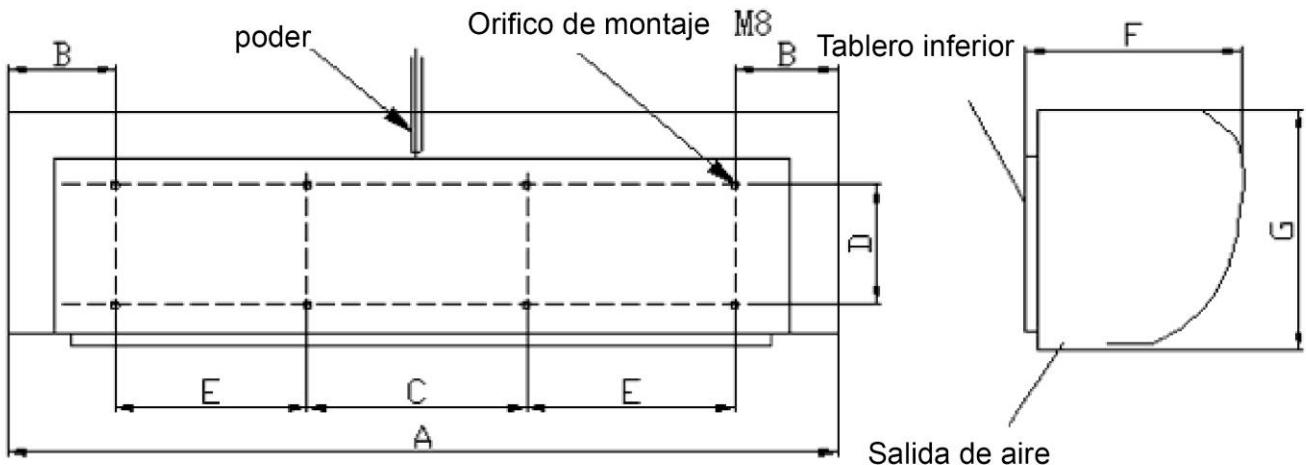

Figura 2
- (1) Dependiendo de las especificaciones las dimensiones de montaje varían, eliga la posición (figura 2)
- (2) Splits out explodes bolt's hole which matches M8 to pull on the position, will pull explodes the bolt to fix on the concretes wall, simultaneously should protect bolt's swinging radius is 15mm. (picture 3)
- (3) With the gasket, the nut fasten the bottom, then install the complete machine (picture 4)